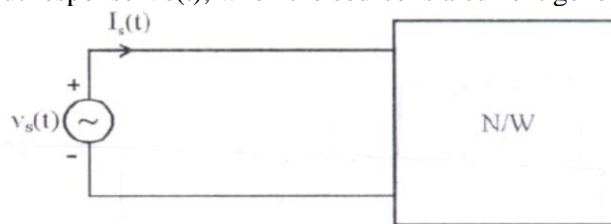

Fig.6.66
8. The network shown in Fig.6.66 is initially in relaxed state. When the source is $10 u(t)$ volts, the transform of the input current is $10 / (2s + 4)$. The circuit is brought to its initial state once again. Find the impedance and input response $V_s(t)$, when the source is a current generator of $5 e^{-2t}$ amperes.